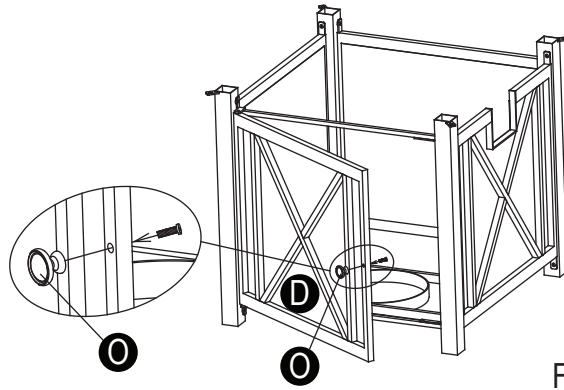

Figure 7
7. Un-screw the Handle Assembly (O), attach the Handle to the Door (D) using the phillips screw driver, then screw it tightly (see Figure 7).